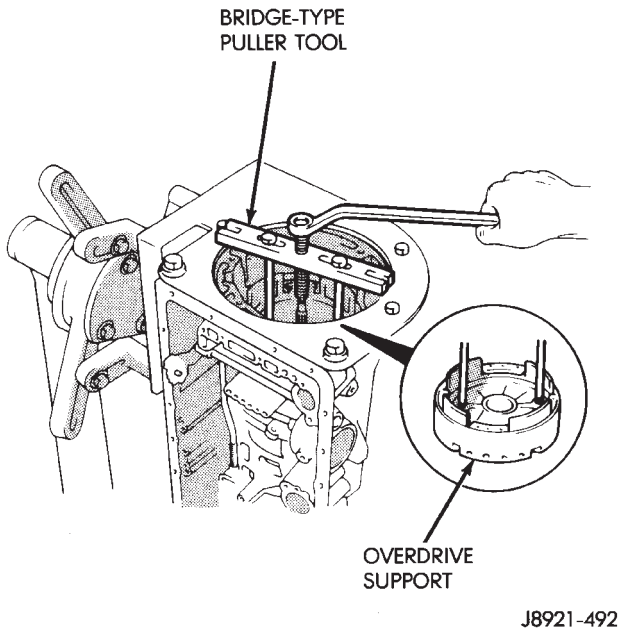

Fig. 25 Removing Overdrive Support
(33) Remove overdrive support (Fig. 25) with bridge-type Puller 7536.